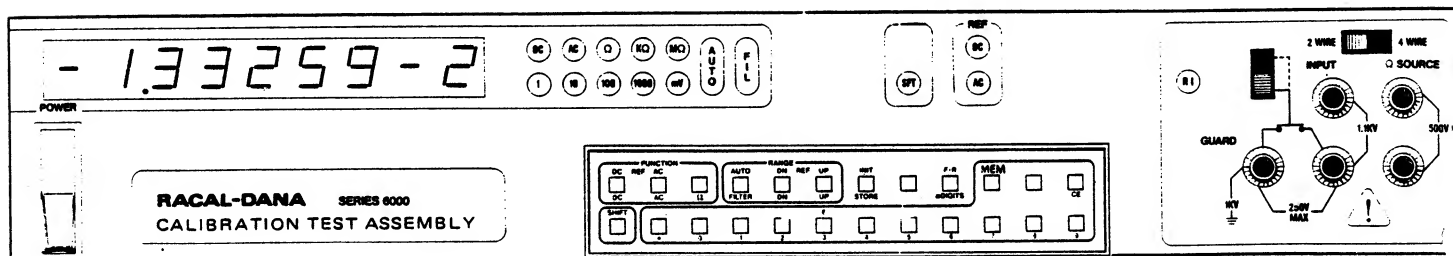

Figure 3.31 - Calibration Test Assembly Front Panel
3.8.2.4.1 The Calibration Module may be inserted into a Series 6000 Calibration Test Assembly for calibration and/or troubleshooting. The Calibration Test Assembly electronics are fully compatible with the Model 6000 DMM, but the keyboard and annunciators have been modified to facilitate the calibration process (reference Figure 3.31).